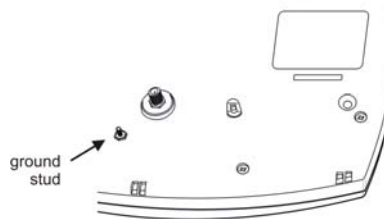

Figure 4.8 Ground stud (HPCU and DU)
At the base of the HPCU pole the ground wire is bonded to the ground rod or network, at the HPCU the ground wire is attached to the ground stud on the HPCU, see Figure 4.8. Use suitable ground lugs and ground rod clamp.
3. Bond the DU to ground using the installed ground wire. At the base of the DU pole the ground wire is bonded to the ground rod or network, at the DU the ground wire is attached to the ground stud on the DU, see Figure 4.8. Use suitable ground lugs and ground rod clamp.